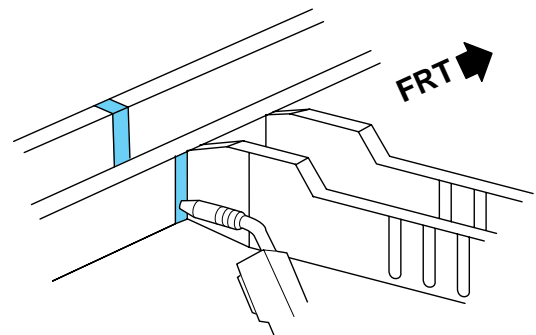

Fig. 1-25 — Install the New Rail Section
- Check the position of the service rear rail section using three-dimensional measuring equipment and tack weld in three locations along all three sides of the rail (Fig. 1-25). Stitch weld along the entire seam and replace factory welds as necessary.